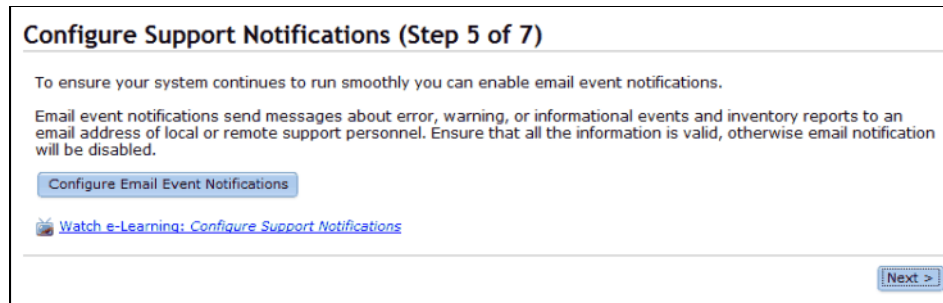
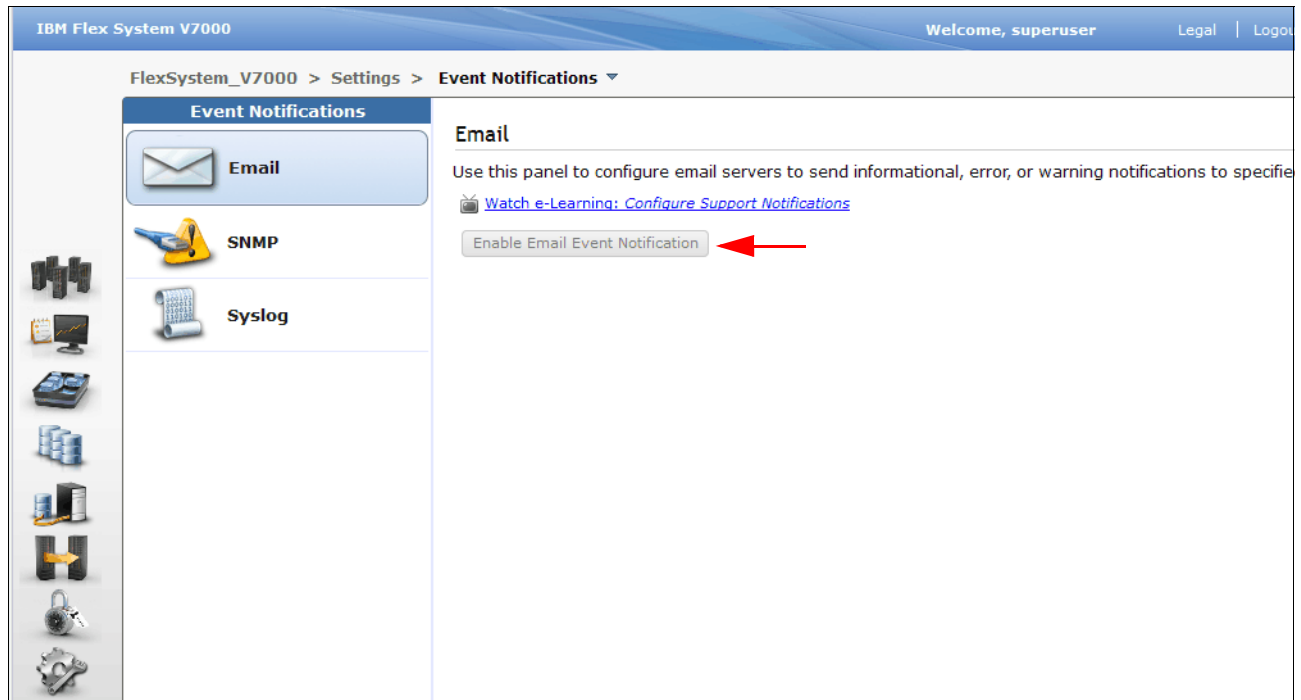

Figure 13-37 Configure email event notification during initial setup
Figure 13-38 Enable email event notification after the initial setup is complete
1. If the step to configure Support Notifications (Step 5 of 7) was complete already during initial setup, as shown in Figure 13-37 on page 563 and Figure 13-38 on page 563,
2. To enable the Call Home event notification function, go to IBM Flex system V7000 management **GUI** → **Settings** → **Event Notifications** → **Email** → **Enable Email Event Notification**, as shown in Figure 13-38.